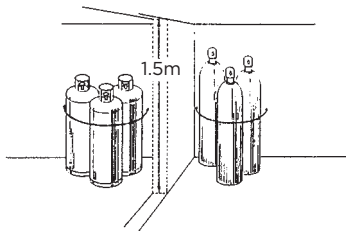

Figure 41-15: Keep Oxygen and Gas Cylinders Separated
- Do not store oxygen cylinders within 6 m (20 ft) of cylinders containing flammable gases unless they are separated by a partition at least 1.5 m (5 ft) high and having a fire-resistance rating of at least 30 minutes (Figure 41-15).